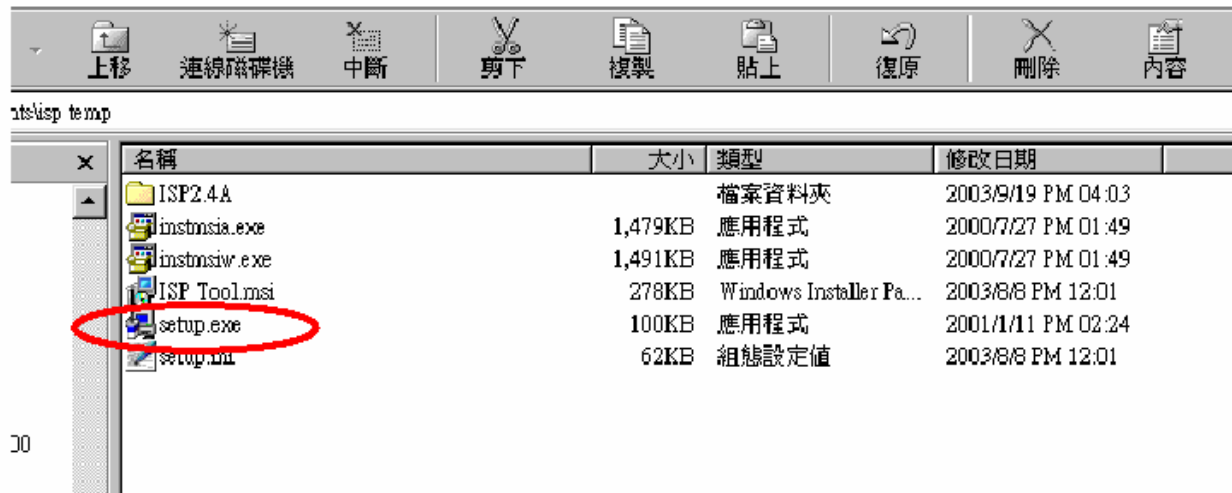

Fig 1.2
1.2 After extracting the ZIP file , the total files list as Fig 1.2 , and double click the file of setup.exe to install.